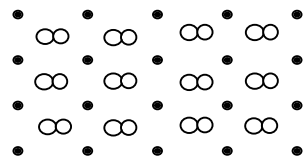

Figure 1.21: Crystal structure
2. Identify the lattice given in Fig. 1.21 and state the number of atoms per lattice point.